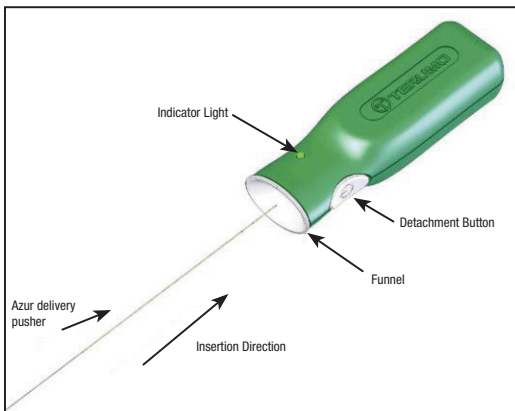

Figure 2 – Azur Detachment Controller
Detachment Controller. See Figure 2. **Do not push the detachment button at this time.**
31. Connect the proximal end of the delivery pusher to the AZUR Detachment Controller by firmly inserting the proximal end of the delivery pusher into the funnel section of the AZUR Detachment Controller. See Figure 2.